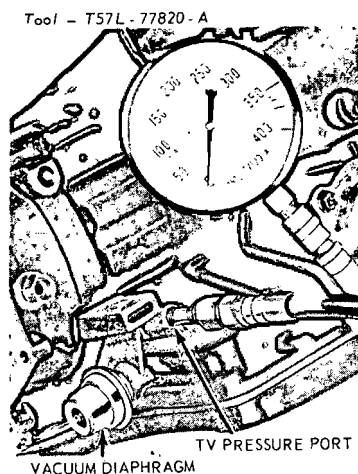

FIG. 63—Input Shell and Sun Gear Disassembled
2. Remove the thrust washer from the input shell and sun gear (Fig. 63).
the sun gear (Fig. 63). Working from inside the input shell, slide the sun gear and snap ring into place making sure that the longer end is at the rear (Fig. 63).